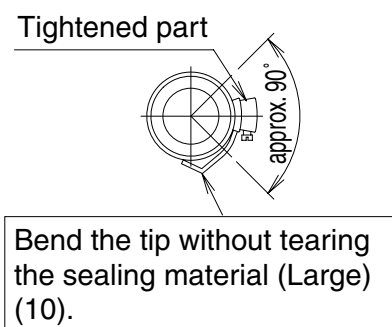

Fig. 12
- Wrap the vinyl tape around the end of the metal clamp (2) so that the sealing material (Large) (10) to be used at the next process may not be damaged with the clamp end or bend the tip of the metal clamp (2) inward as shown. **(Refer to Fig. 12)**